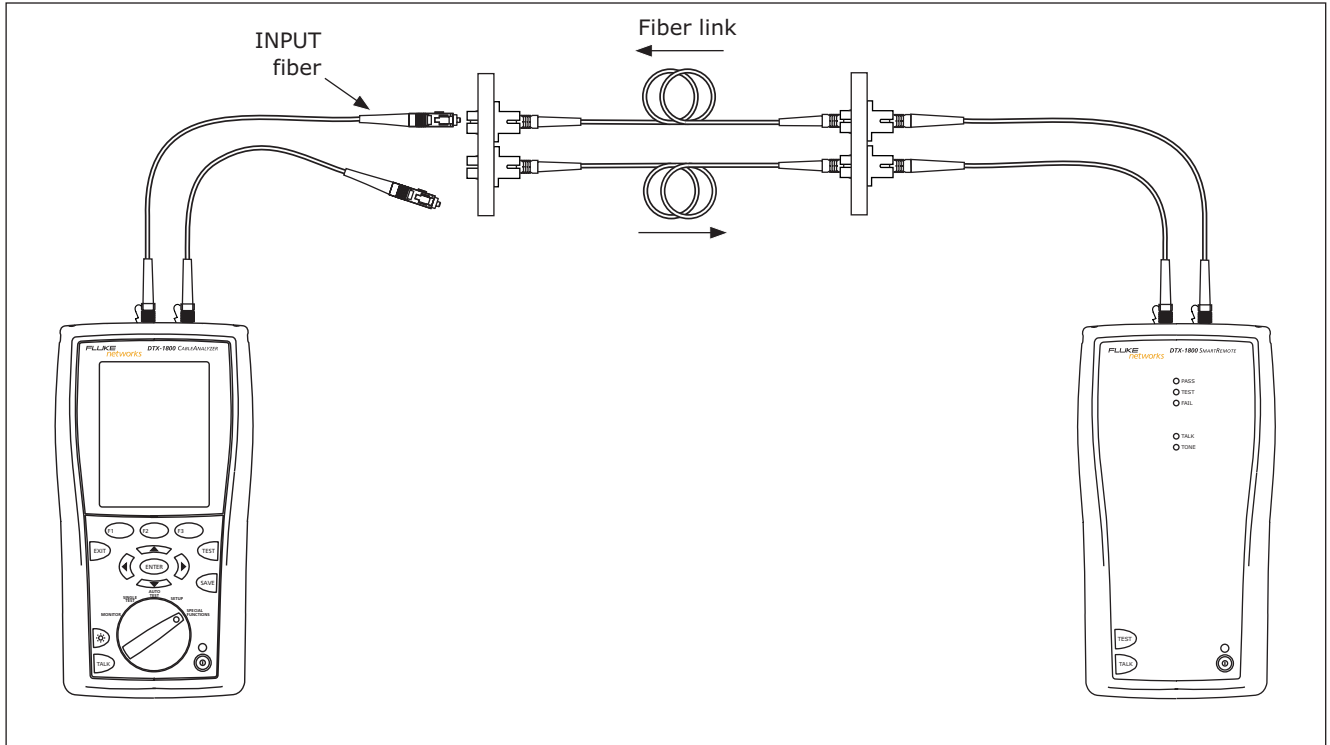

Figure 5-21. Using FindFiber in Smart Remote Mode
- 3 Clean all connectors; then make the connections shown in Figure 5-21.